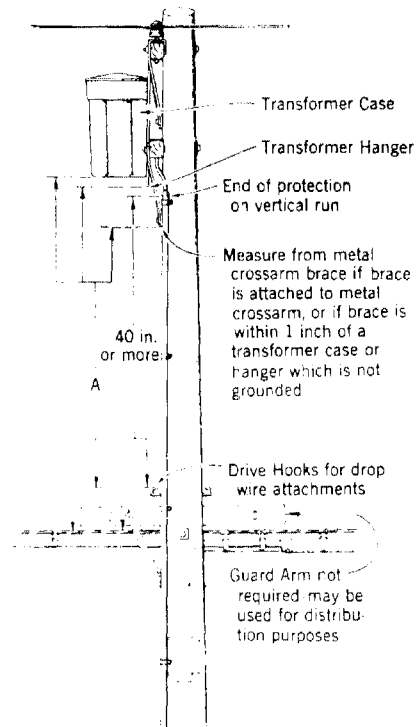

Fig. 12
5.01 The minimum vertical clearance between power transformers, capacitors, or voltage regulators and telephone cables, wires, guys, terminals, loading coil cases, drivehooks, etc shall be as follows: ("A" on Figs. 12 and 13.)